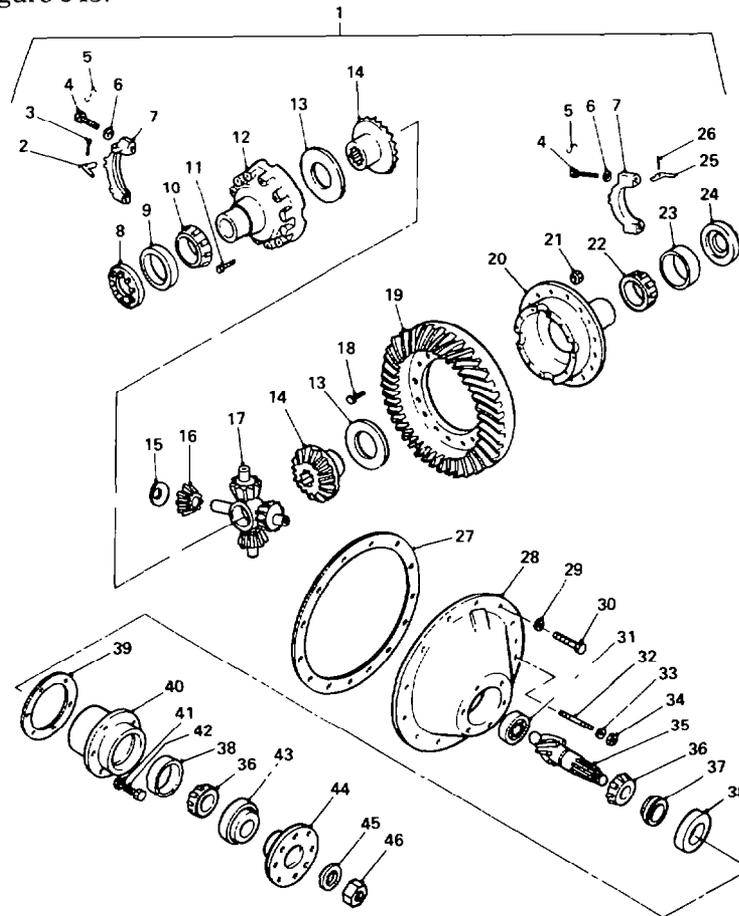

Fig. 345 — Differential Carrier — Exploded View — Eaton Model 18123
NOTE: Unless otherwise stated, all numbers in parentheses () refer to illustration numbers in Figure 345.
- b. Cut the locking wire (fig. 345, item 5) then remove the bolts (item 4) securing the bearing caps (item 7) to the carrier pedestals (item 28); remove the bearing caps, bearing adjusters (item 8) and bearing caps (item 9).